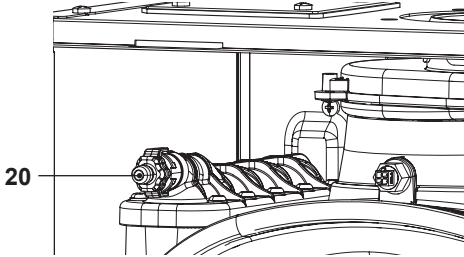

Fig. 7.3
- Before slackening the main condensing pipe exchanger 20 in Fig. 7.3 connect a small draining pipe to the hose nozzle to drain water out.